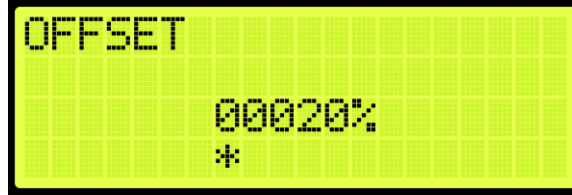

Figure 511: OFFSET Menu
4. From the OFFSET menu, enter the offset amount for the threshold (See Figure 511).